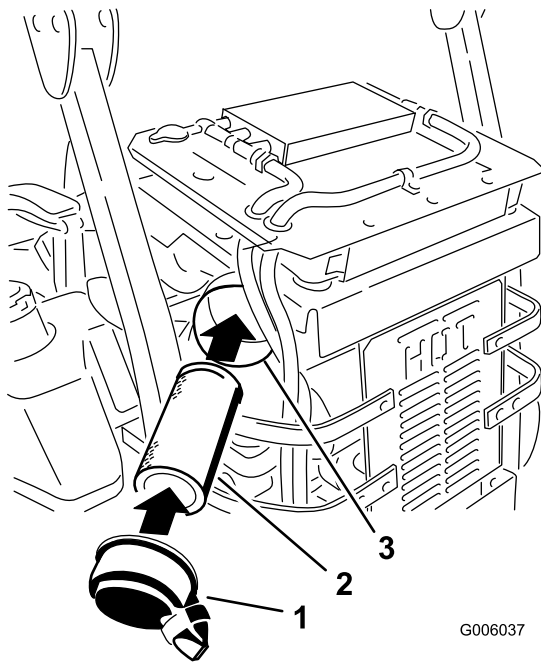

Figure 32
5. Release the latches on the air cleaner and pull the air cleaner cover off of the air cleaner body (Figure 32).
7. Gently slide the filter out of the air cleaner body (Figure 32). Avoid knocking the filter into the side of the body.
2. Carefully slide the filter into the filter body (Figure 32). Ensure that it is fully seated by pushing on the outer rim of the filter while installing it.
3. Install the air cleaner cover and secure the latches (Figure 32).